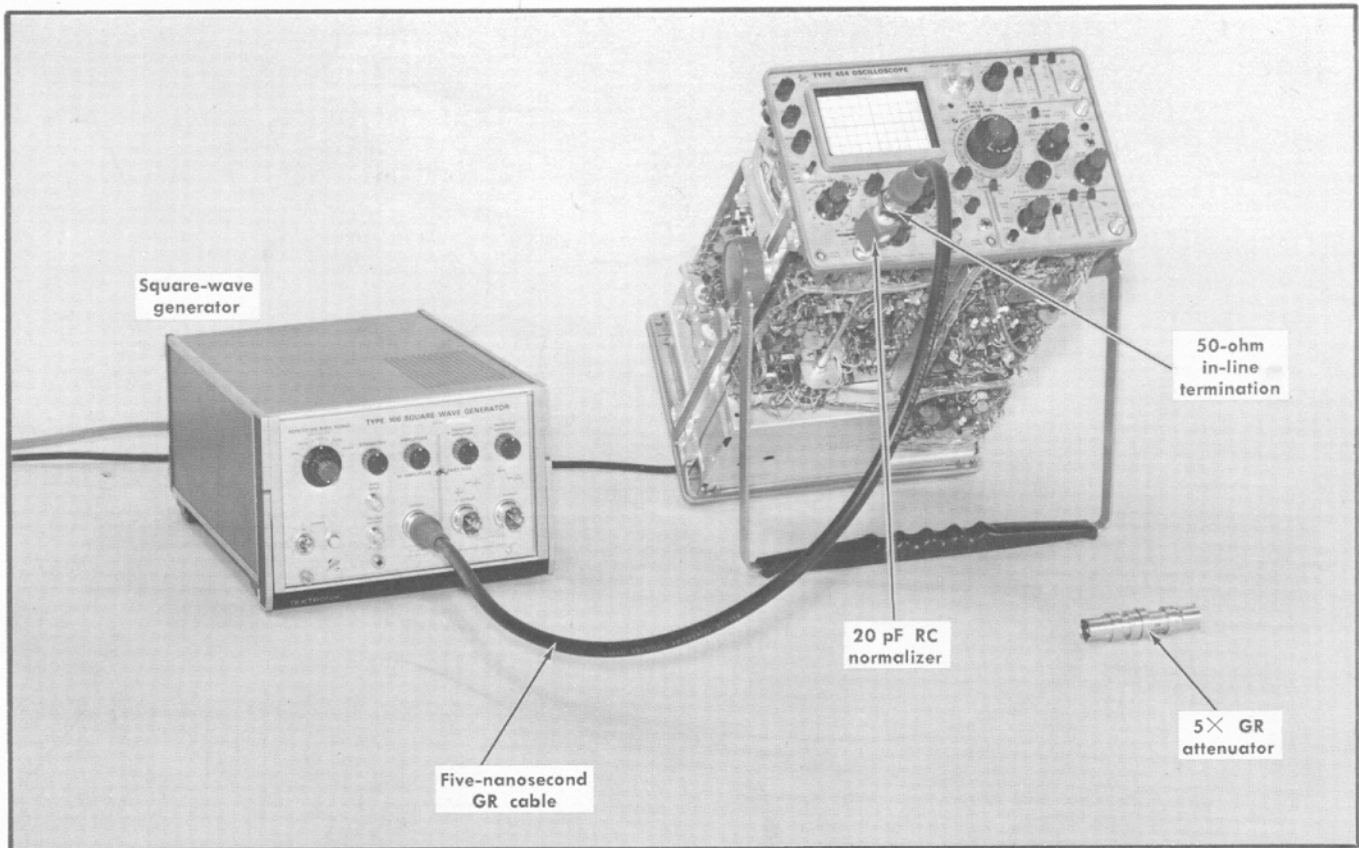

Fig. 6-22. Initial test equipment setup for steps 24 through 26.
- Test equipment setup is shown in Fig. 6-22.